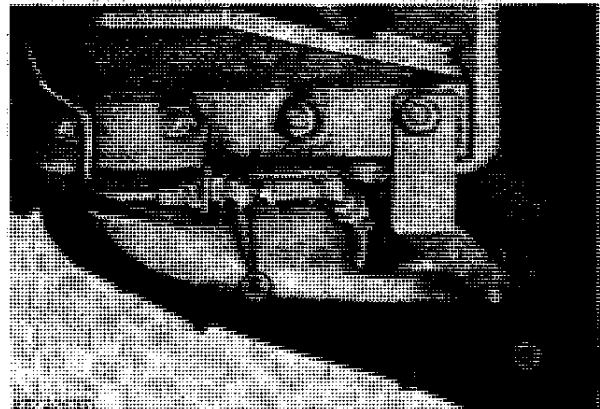

Fig. 2-Connecting Brake Line and Hose (Right-Hand Side Illustrated)
5. Remove cap screw from clamp, slip clamp over brake hose, and secure clamp to bracket with cap screw, lock washer, and nut (Fig. 2).
6. Connect brake line and brake hose together with coupling (Fig. 2).